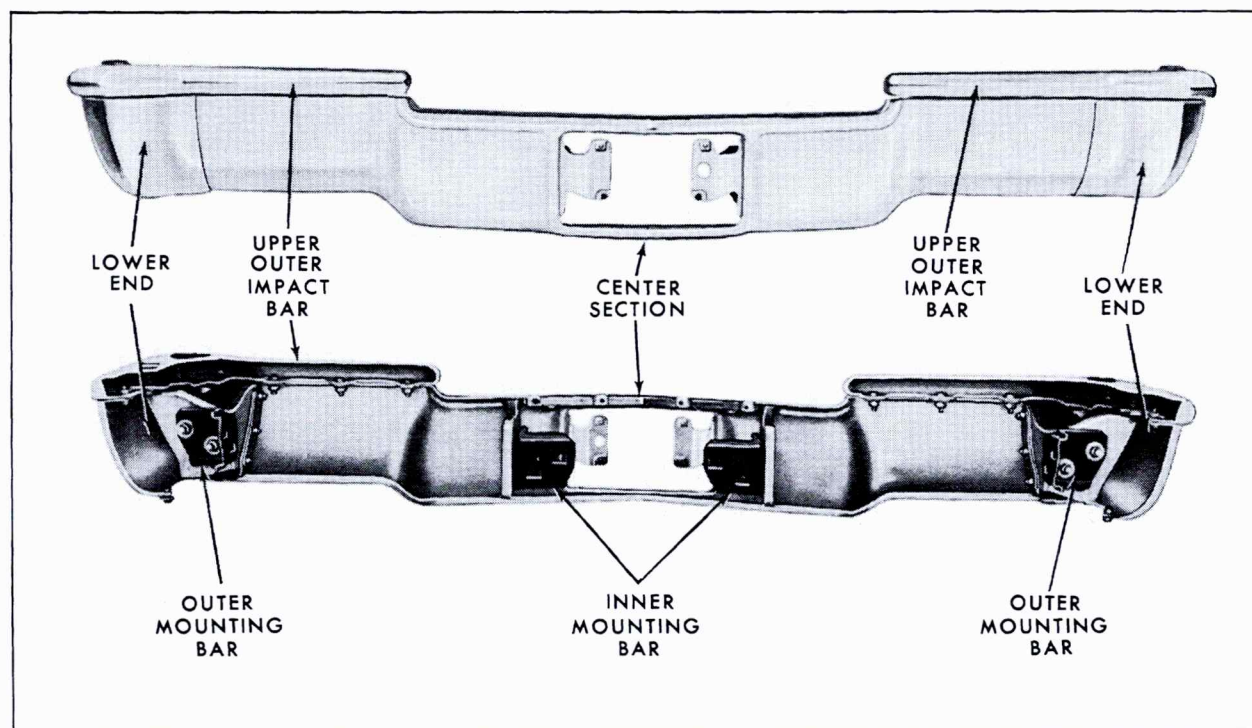

Fig. 14-1 Front Bumper - Front and Rear View
The front bumper assembly, Fig. 14-1, is of a five-piece design that includes a sculptured center
a. Removal (Fig. 14-1)
b. Installation (Fig. 14-1)